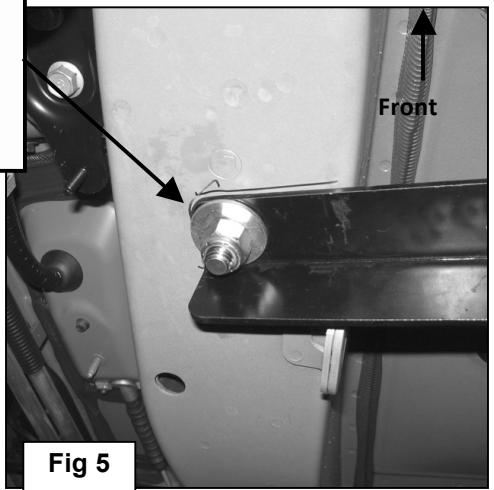
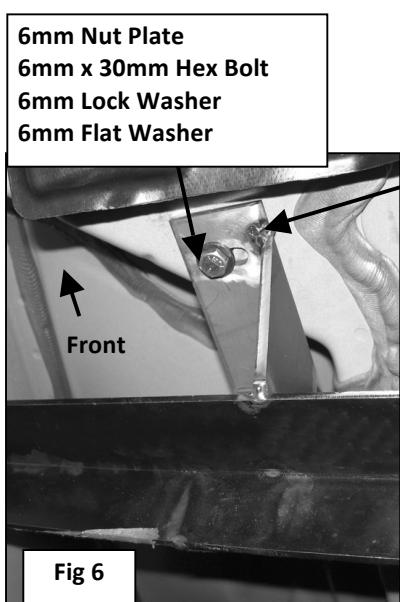

Fig 5
Fig 6
6. Select the driver side Front Mounting Bracket and hang it from the 12mm Bolt plate installed in **Step 4**. Secure the Bracket to the Bolt Plate with (1) 12mm Lock Washer, (1) 12mm Flat Washer and (1) 12mm Hex Nut, (**Figures 5 & 7**). Attach the Mounting Bracket to the 6mm Nut Plate and secure it using (1) 6mm x 30mm Hex Bolt, (1) 6mm Lock Washer and (1) 6mm Flat Washer, (**Figures 6 & 7**). Do not tighten hardware at this time.